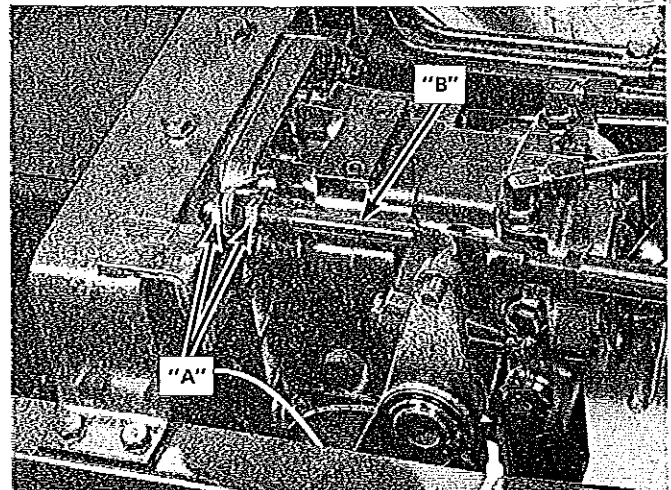

Figure 45
4. Loosen nuts "A" Figure 45. If the rear wheels creep "Forward" shorten link "B" Figure 45 until wheels stop creeping. If the rear wheels creep "Backward" lengthen link "B" Figure 45 until wheels stop creeping. Retighten nuts "A" Figure 45.